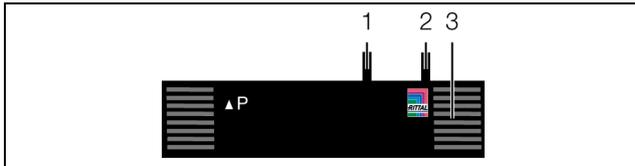
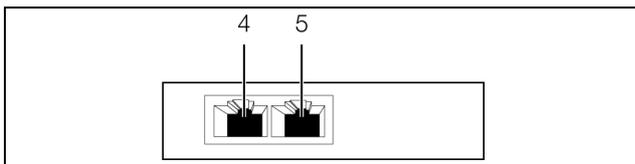

Fig. 9: Front of the differential pressure sensor
Fig. 10: Rear of the differential pressure sensor
A multi-LED for the status display is integrated into the front of the differential pressure sensor (fig. 9, item 3). Further LEDs are located at the rear on the CAN bus connection (fig. 10, item 4 and item 5).